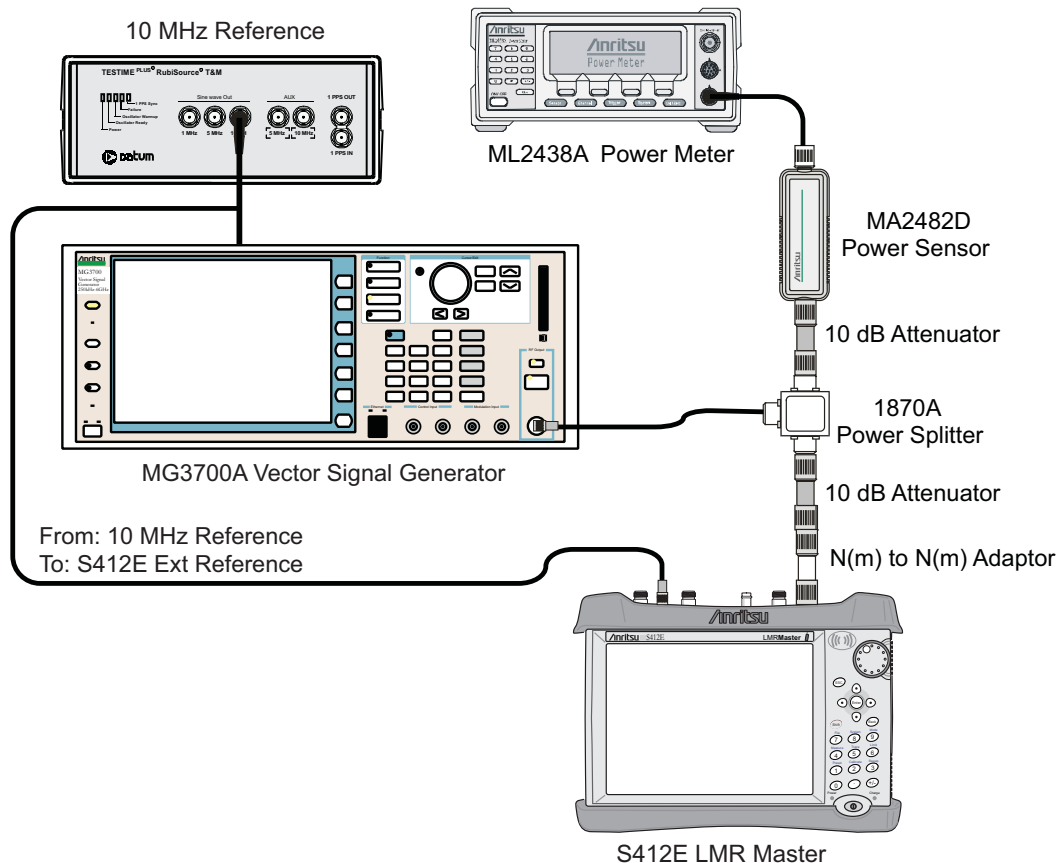

Figure 5-2. Mobile WiMAX Signal Analyzer Option Verification
4. Connect the equipment as shown in Figure 5-2.